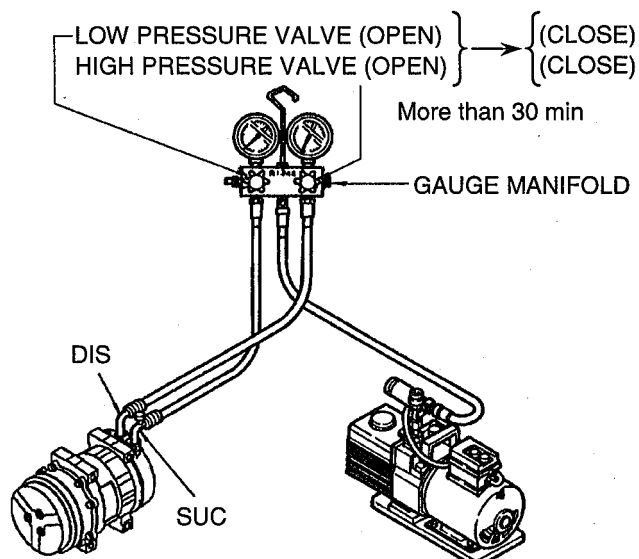

Fig. 27 Vacuum making operation
#### (2) Vacuum Making (See Fig.27.)